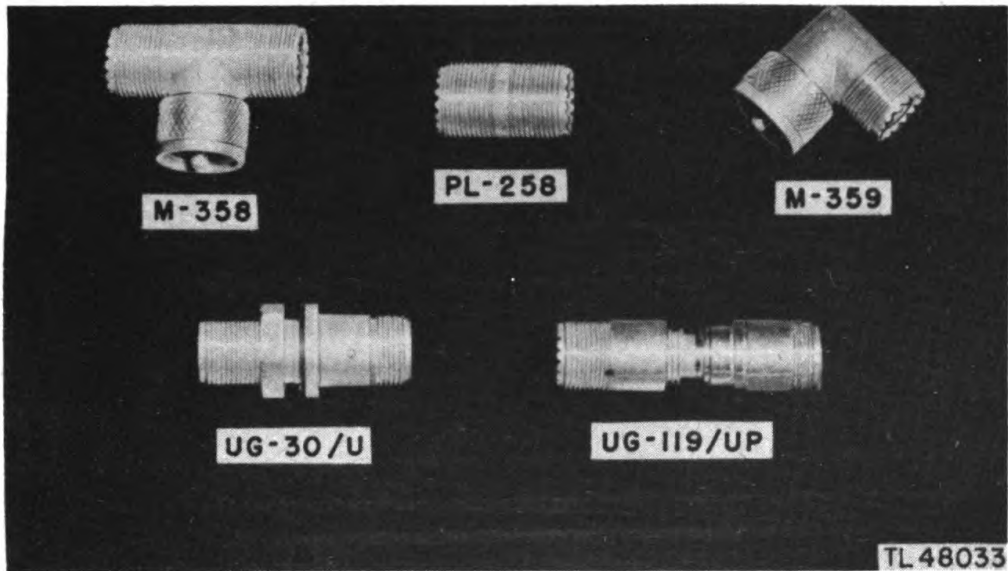

Figure 14. Adapters and Plugs.
a. Adapter M-358 (fig. 14) is a T-type connector used to connect Dummy Antenna TS-208/MPM and Test Antenna TS-210/MPM to the receiver of Radio Equipment RC-145-A for alignment purposes.
b. Adapter M-359 (fig. 14) is a video-type, male-to-female, right angled connector used with Adapter M-358 for alignment of the receiver of Radio Equipment RC-145-A. It connects Socket SO-239 and Plug PL-259. The male portion of the adapter has a coupling unit to fit Socket SO-239.
c. Radio Frequency Jack UG-30/U (fig. 14) has a type N receptacle at each end. It is used to connect two r-f coaxial cables in order to provide increased length.
d. Plug PL-258 (fig. 14) is a video-type connector with two female sockets.
e. Crystal Adapter UG-119/UP (fig. 14) has a type N plug on one end and Socket SO-239 on the other end. The adapter serves as a holder for crystal 1N21B, which is used with Echo Box TS-207/UP.